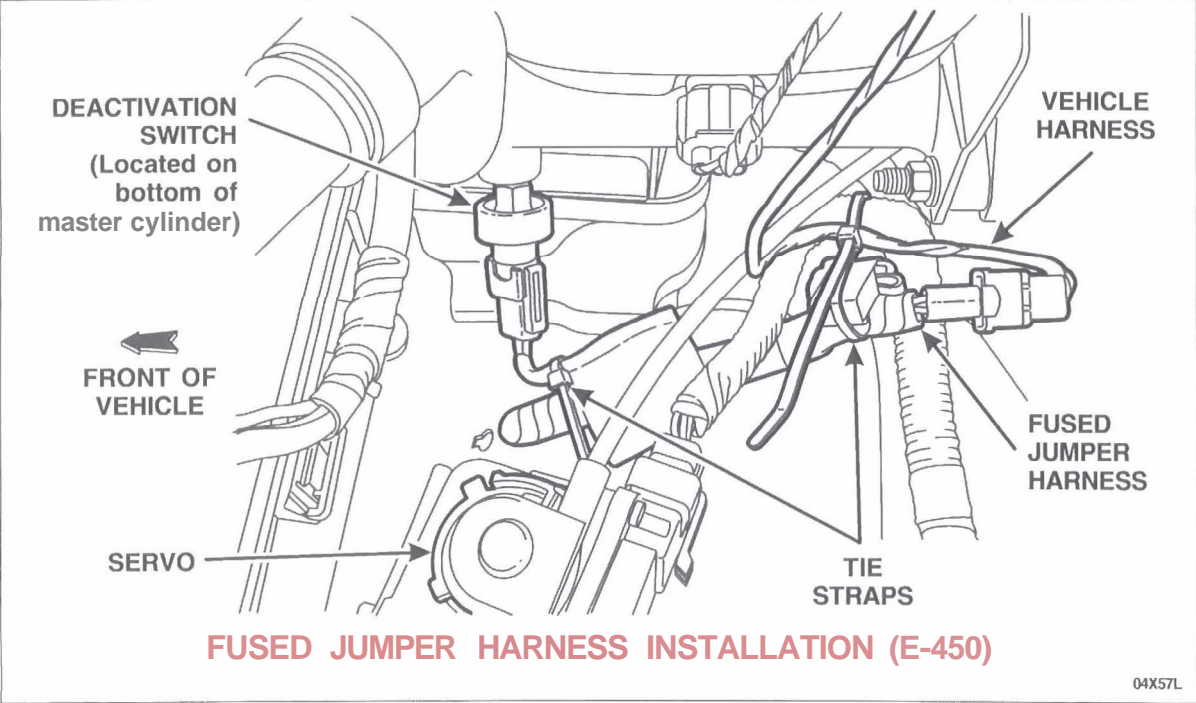

FIGURE 5
- NEW** 2. **On E-450 models, secure the 2-wire take out to the larger portion of the fused jumper harness before installation, as shown in Figure 5.**